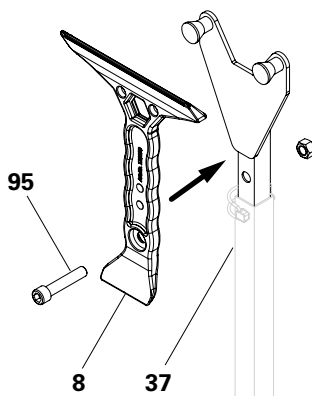

Fig. E1.04
- To fulfil the surface requirements, these can be exchanged. (Fig. E1.04)
For this, firmly attach the DUO cleaning device (8) to the DUO shuttering aid (37) by means of M12 x 60 Allen screws and nuts. (Fig. E1.04)